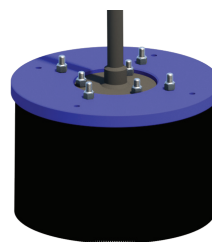

Figure 36
4.0.7) Thread a locknut onto the screw to tightly secure the centering ring to the cutter. Repeat for the other three screws (see Figure 36).